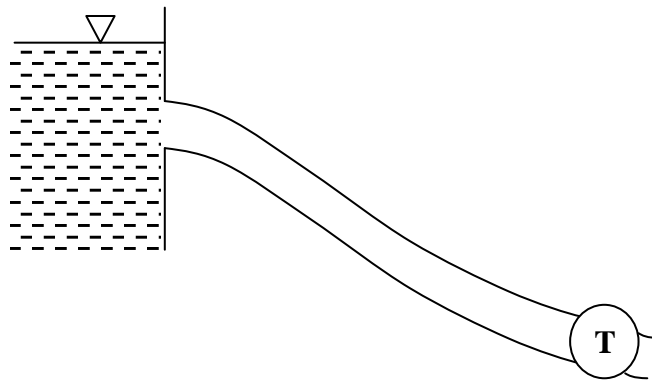

Figure 9: Turbine carries a flow / *Rajah 9: Turbin yang membawa aliran*
4. [a] A turbine, located 255 m below the water surface intake (See Figure 9) carries a flow of $3.5 \text{ m}^3/\text{s}$. The head loss in the pipeline leading to it is 10 m. Find the power (kW) delivered by the turbine if its efficiency is 92%.